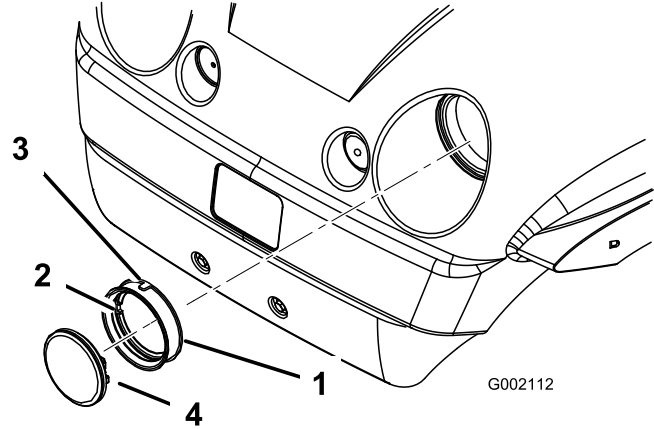

Figure 39
- Remove the rubber seal from around the headlight (Figure 39). Discard the headlight.
- Align the notch on the inside of the seal with the notch on the new headlight (Figure 39). Slide the seal onto the headlight until the seal is firmly in place.